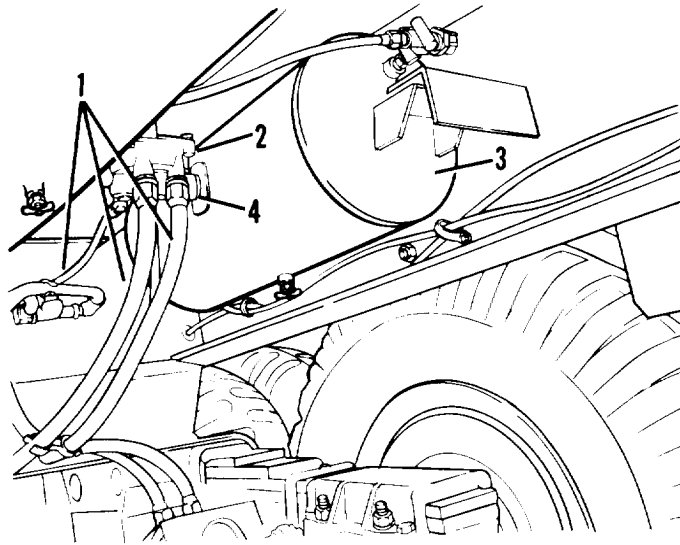

Figure 4-33. Emergency relay valve
- (1) Tag and disconnect air lines (1, figure 4-33) from emergency relay valve (2).
- (2) Remove relay valve (2) with nipple (4) from air reservoir (3).
- (3) Remove nipple (4) from emergency relay valve (2).
- (1) Install nipple (4, figure 4-33) in emergency relay valve (2).
- (2) Put pipe locking compound on nipple (4). Install relay valve (2) with nipple (4) on air reservoir (3).
- (3) Connect air lines (1) to emergency relay valve (2).
- (4) Close drain cocks.
- (5) Perform operating and leakage tests (para. 4-30).